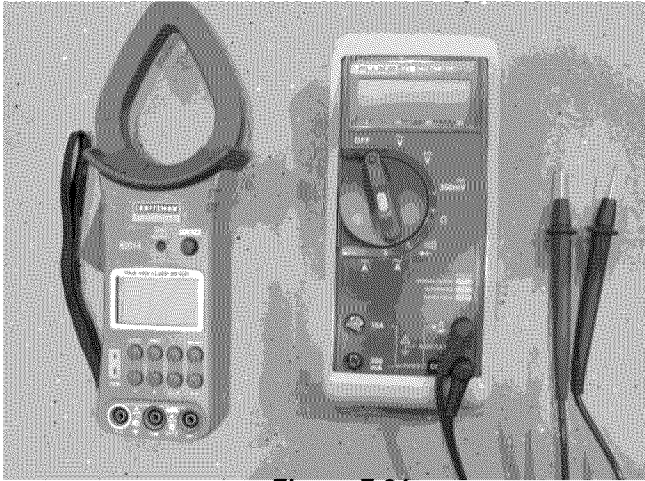

Figure 7.31
- A DMM is the most useful tool to trouble-shoot any electrical system. There is an amazing variety of DMMs on the market. Some are very basic, others are tailored to specific industries, and some high-end graphing meters function like oscilloscopes. Even the most basic ones are quite versatile. See Figure 7.31.